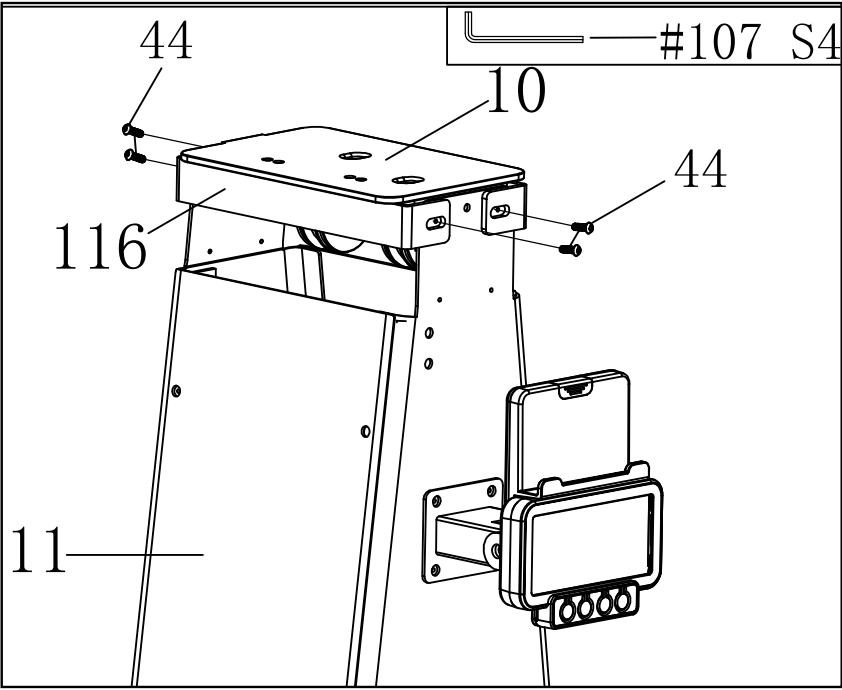

Fig. 1
1. Position the main frame (11) in a vertical position.
2. Remove the four bolts (44) and two fixed seat guard plates (116) from the fixed seat (10) (Fig. 1).